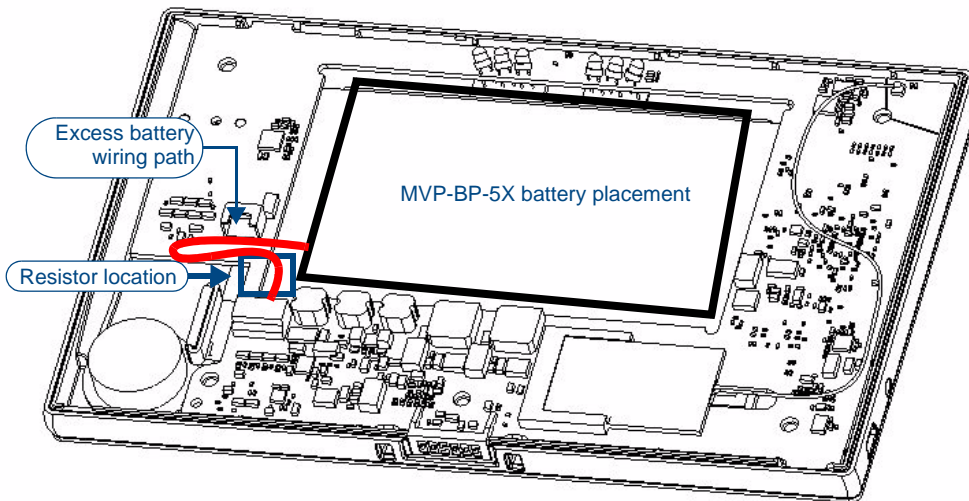

FIG. 7 Path of excess battery wiring
- On the back cover, make sure that the battery connector wiring runs to the right. Make sure that the excess battery wiring fits in the space to the bottom left of the battery placement (FIG. 7).